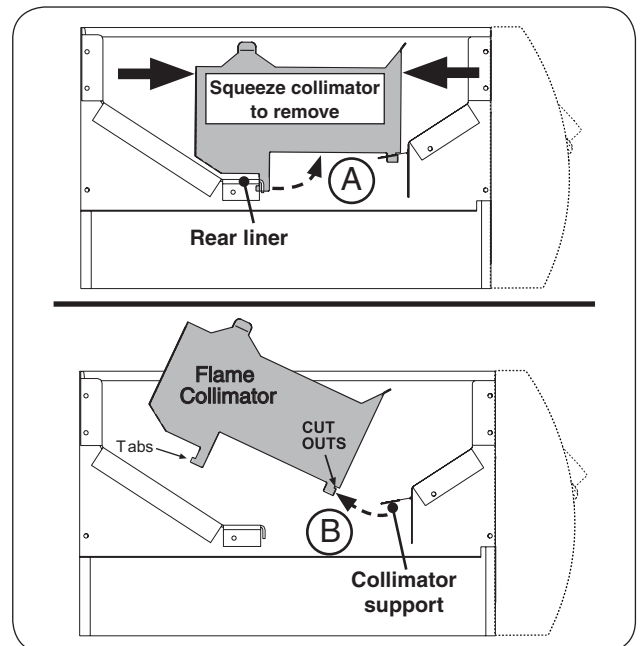

Fig. 39-4 Flame collimator removal
2. Squeeze the collimator to detach the rear tab from the rear liner as shown in Fig. 39-4, A, and lift up the rear portion of the collimator.
3. Detach the collimator from the front collimator support and completely remove the collimator as shown in Fig. 39-4, B.